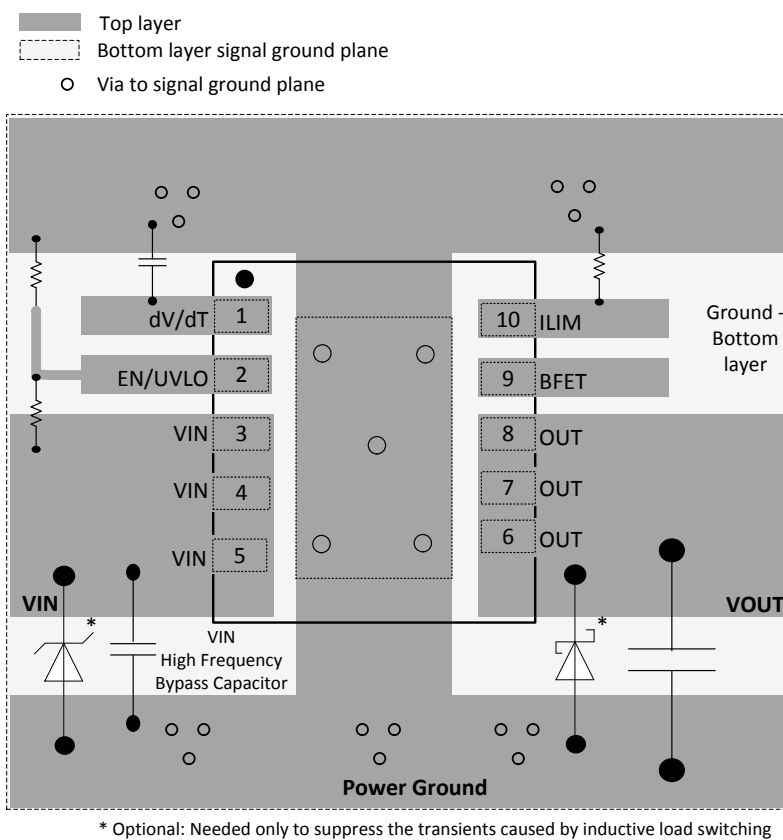

Figure 48. Layout Example
- The optimum placement of decoupling capacitor is closest to the IN and GND terminals of the device. Care must be taken to minimize the loop area formed by the bypass-capacitor connection, the IN terminal, and the GND terminal of the IC. See Figure 48 for a PCB layout example.